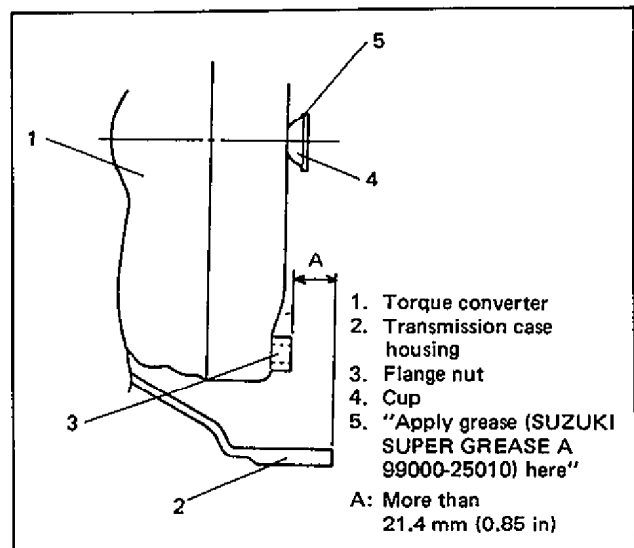

Fig. 7B-3 Installing Torque Converter
- a) Apply grease around the cup at center of torque converter (Fig. 7B-3).
- b) Measure the distance A shown in Fig. 7B-3. The distance should be more than 21.4 mm (0.85 in). If it is less than 21.4 mm (0.85 in), it means that the torque converter is improperly installed. Therefore, in such a case, remove the torque converter, and then, reinstall it for proper installation.